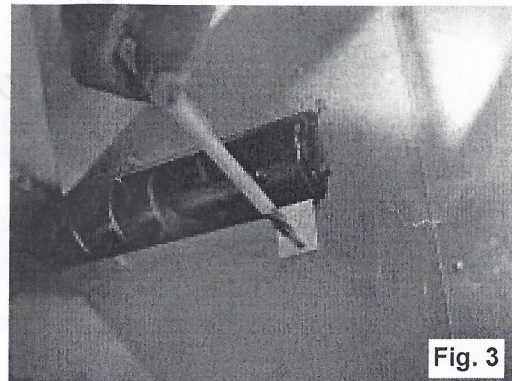

Fig. 3
3. Position the hole template as shown and mark location (see Fig. 3).